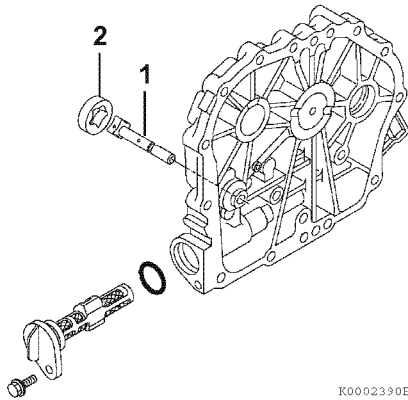

Figure 6-74
- Remove the inner rotor, shaft assembly (1, **Figure 6-74**) and outer (2, **Figure 6-74**) rotor from the crankcase cover.